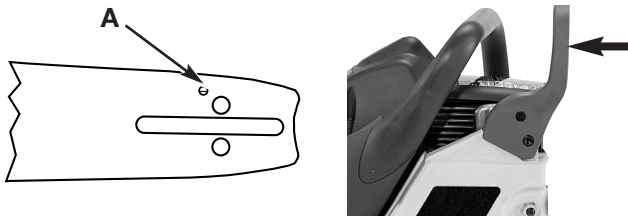

Fig. 17
CAUTION: To ensure the bar and chain receive oil, **ONLY USE THE ORIGINAL STYLE BAR** with the oil passage hole (A) as illustrated in Fig. 17.
1. Make sure the Chain Brake® lever is pulled back into the DISENGAGED position (Fig. 17).